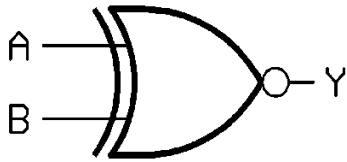

FIG 7
7. **X-NOR**: XNOR gate is XOR gate followed by NOT. Figure 7 represents the symbol of the XNOR gate. The logic equation,  $Y = \overline{A \oplus B}$